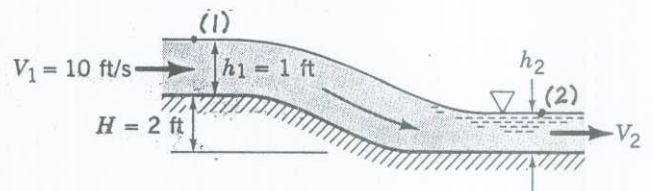

FIGURE P3.101
3.101 Water flows down the sloping ramp shown in Fig. P3.101 with negligible viscous effects. The flow is uniform at sections (1) and (2). For the conditions given show that three solutions for the downstream depth,  $h_2$ , are obtained by use of the Bernoulli and continuity equations. However, show that only two of these solutions are realistic. Determine these values.